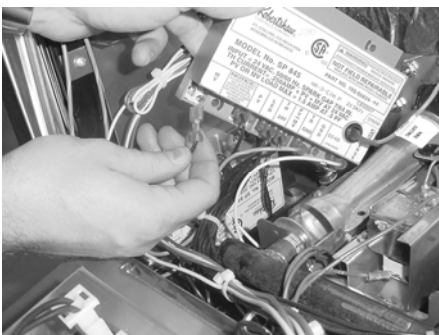

Figure 2-25
4. Label and remove the wires at module. Figure 2-25.